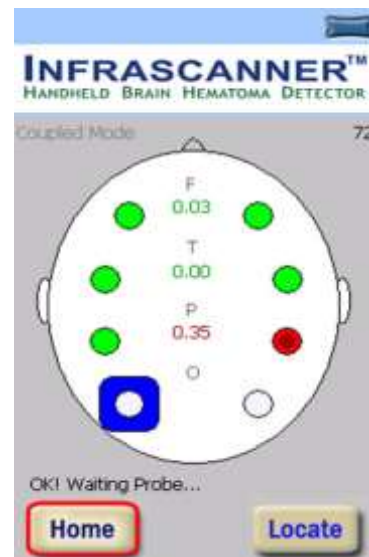

Figure 3-10: Measurement Screen with results
10. The results of measurements (Figure 3-10) will not be displayed until the user completes the occipital measurements (or if they are skipped).
4. The next screen (Archived Measurement screen, Figure 3-14 is the same as the Measurement Screen (Figure 3-10) shown at the end of a measurement.